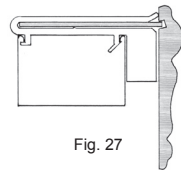

Fig. 27
- Slide the dust cover into the clip as shown. (Fig. 27)